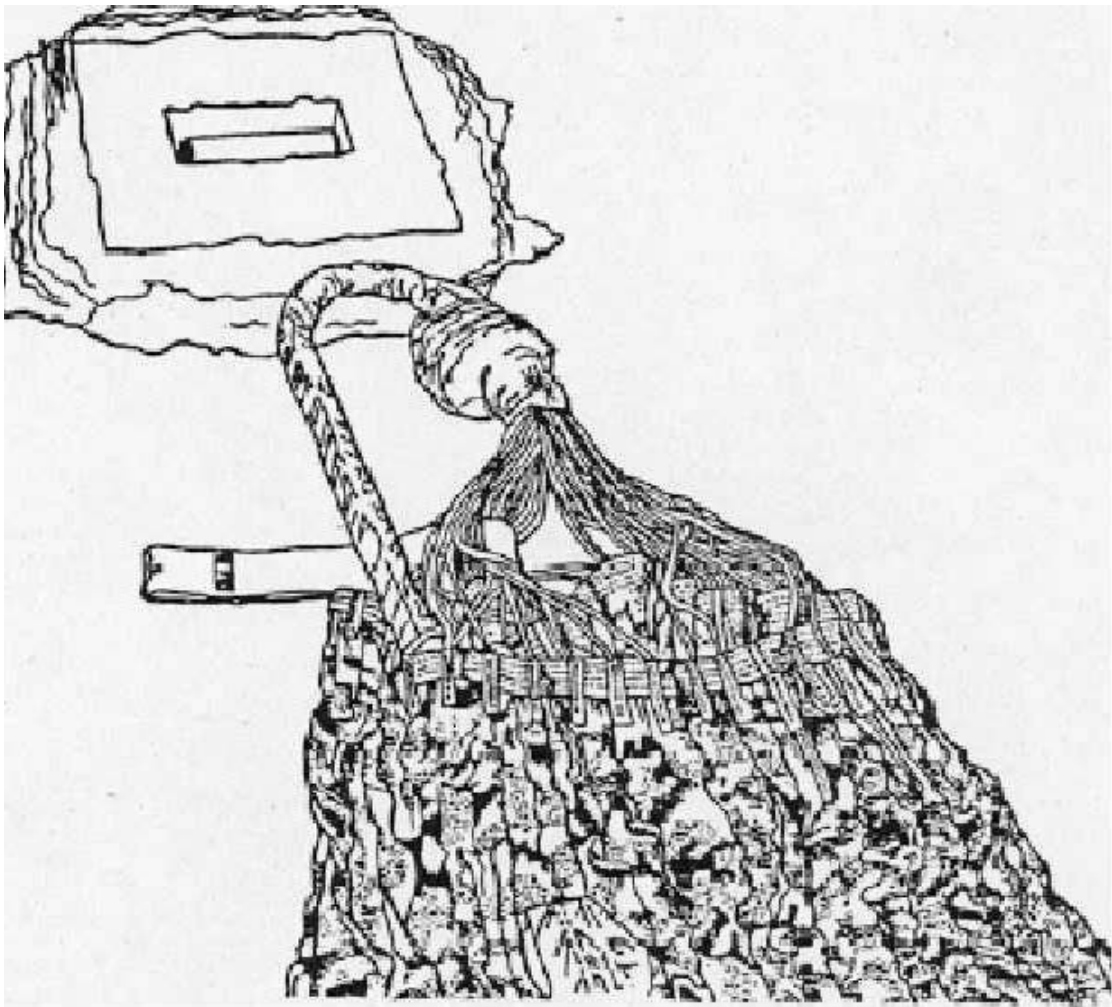

Figure 3-24
- f. Tape the shackle, vent line loop, and centerline loop so that no metal parts, splice ends, or rough webbing ends are exposed. (See Figure 3-24)